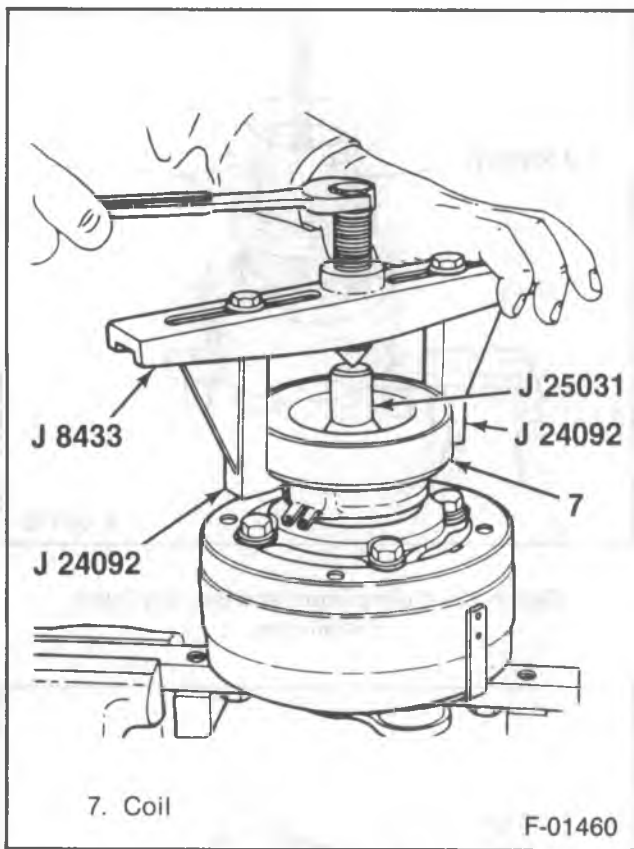

Figure 14—Removing the Poly-Groove Clutch Coil
Remove or Disconnect (Figure 14)
- Clutch coil from the front head using the tools as shown in figure 14.